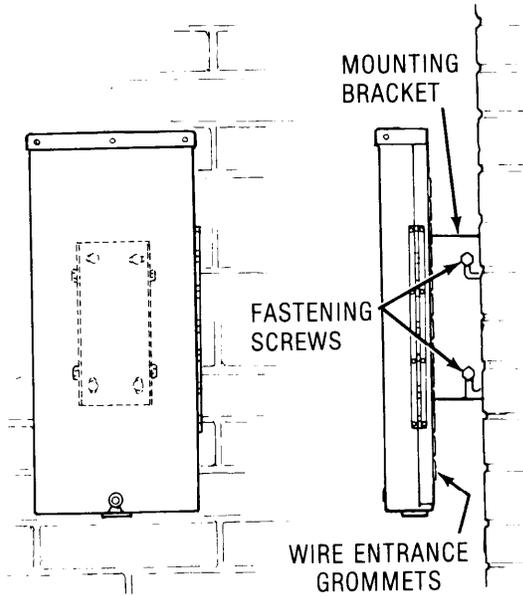

Fig. 12 — Installing Terminal on Mounting Bracket
- (c) Place the terminal on the mounting bracket and tighten the screws to secure the terminal (Fig. 12).